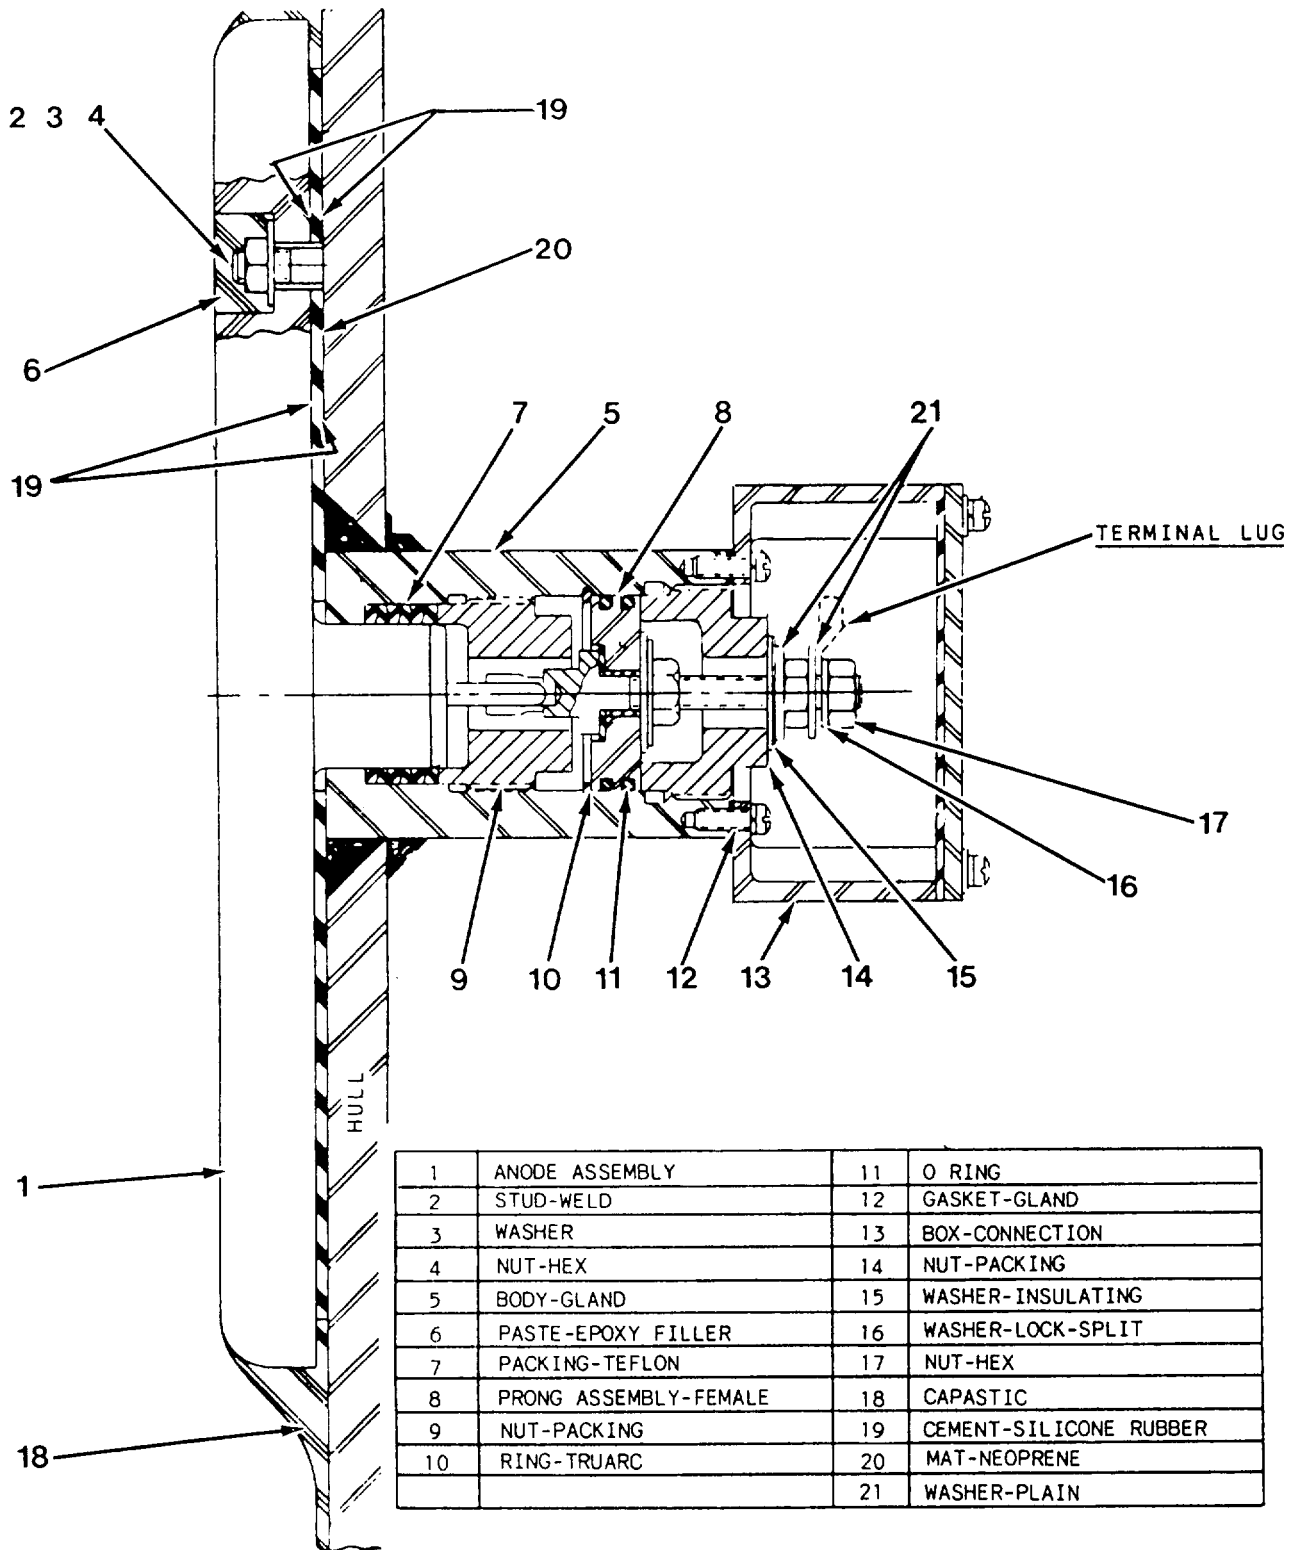

Figure 11-11.—Anode assembly.
**Anodes.**— The anodes (fig. 11-11) are constructed of two platinum-coated tantalum rods mounted in an insulating glass-reinforced polyester holder. Anodes are bolted to the outside of the ship's hull. The direct